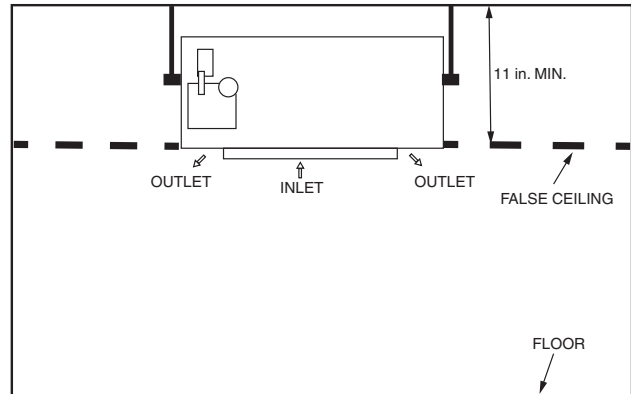

Fig. 3 — False Ceiling Installation
- There should be enough room within the false ceiling for installation and maintenance (see Fig. 3).